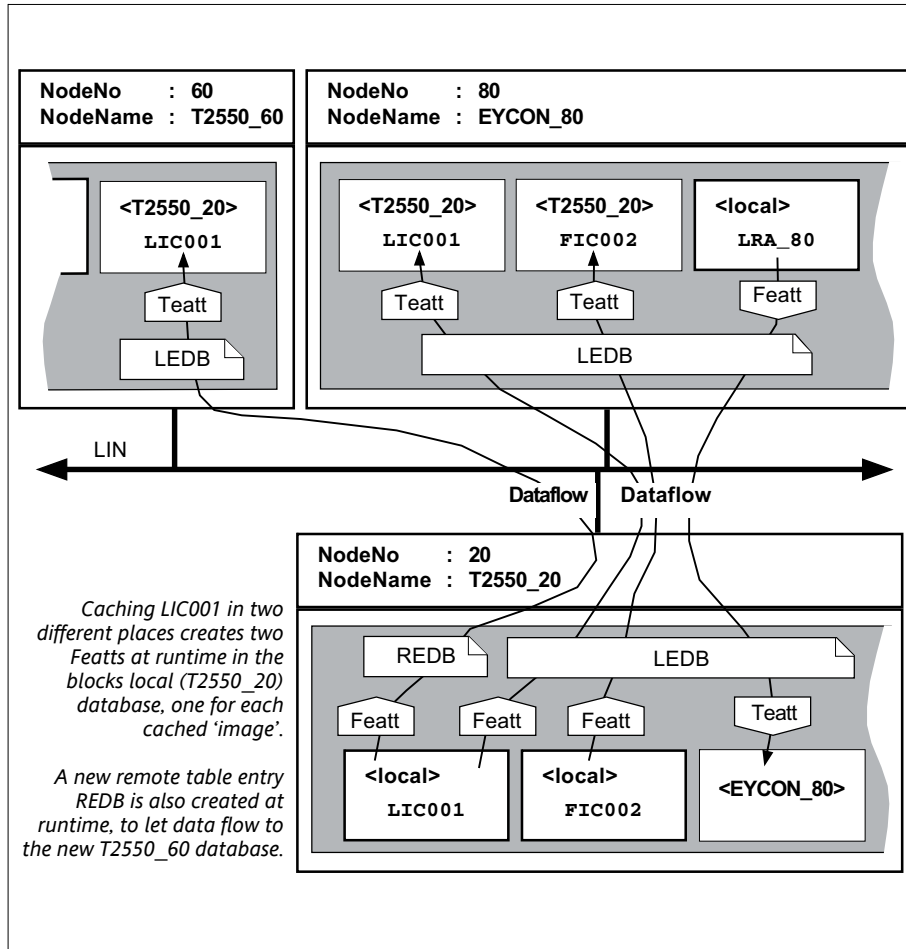

Figure 130 Caching blocks between three nodes
5. Caching blocks between three nodes (*Figure 130*).
In *Figure 130* a third node has been connected to the LIN, T2550_60 at address 60. This node has been configured to cache the LIC001 block from the T2550_20 node, i.e. this block is being cached in two different nodes at once. As usual, a new Teatt and LEDB table entry are created at configuration time and saved in the T2550_60 database.